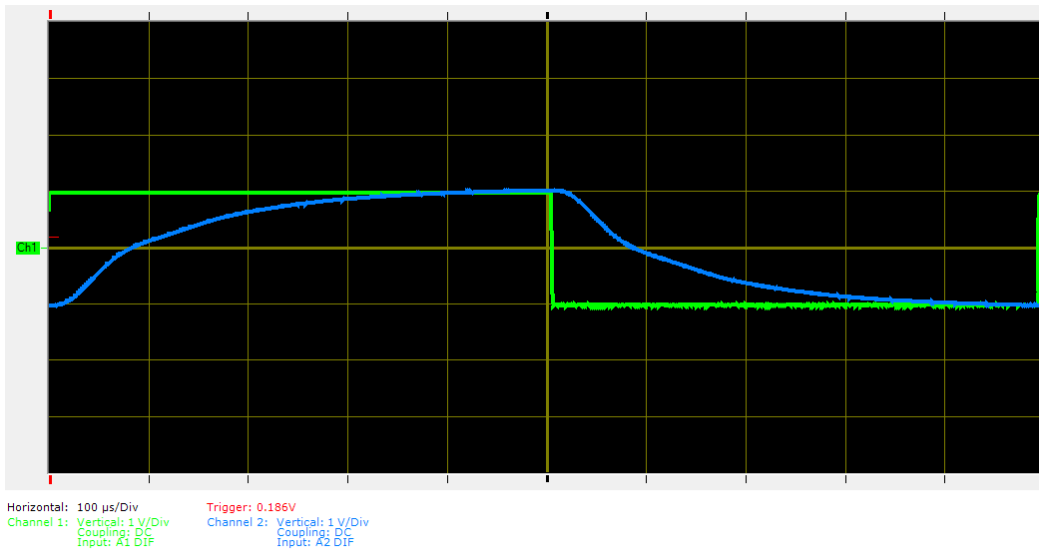

Figure 16. Closed loop step response of our second order system with no overshoot.
4) Connect your system, or plant, to the feedback network and try to adjust the system so there is no overshoot and the settling time is less than approximately 0.3 ms , as shown in Figure 16. You may have to adjust the time scale and frequency of the signal generator to get a good picture. Be sure your system has reached steady state (it's flat on the top!) *Include a screen shot of this in your memo.* Note that in this case, we cannot speed up the response of the system if our goal is to reduce the overshoot.